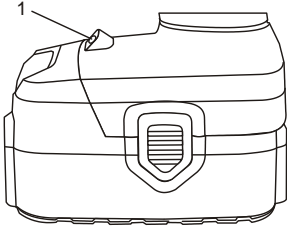

Fig. 6
The LED worklight (1) will automatically turn ON when the trigger switch is squeezed (Fig. 6). It will automatically turn OFF when the trigger switch is released.